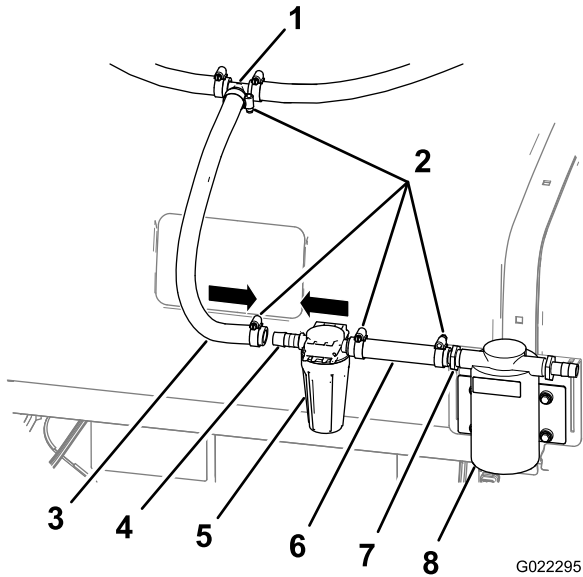

Figure 11
- Attach one end of the 42 cm (16.5 inch) hose to the T-fitting with a hose clamp (Figure 11).
- Attach the other end of the hose to the rinse pump filter with a hose clamp (Figure 11).
- Attach the 15 cm (6 inch) hose to the other side of the rinse pump filter with a hose clamp (Figure 11).
- Attach the other end of the hose to the rear hosebarb on the rinse pump with a hose clamp (Figure 11).